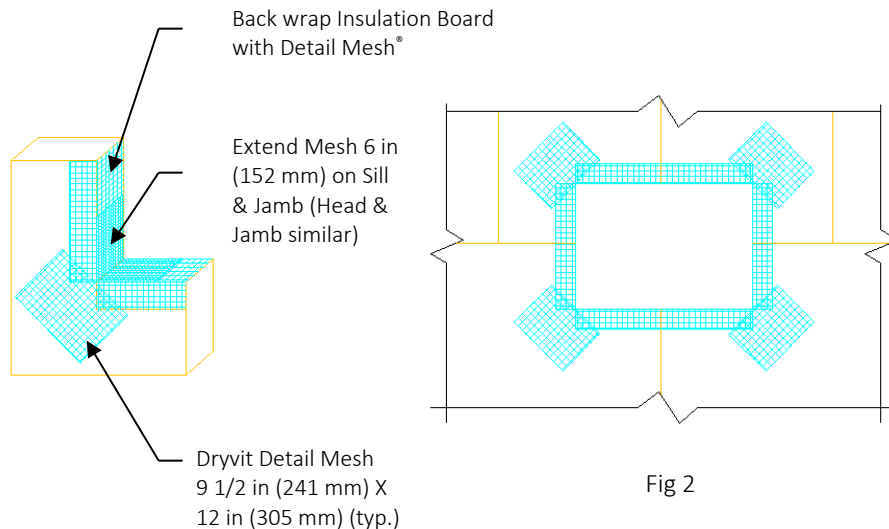

Fig 2
4. Corners of all openings such as windows, doors, mechanical equipment and all penetrations shall be reinforced with Detail Mesh placed diagonally to the opening as illustrated in Figure 2.